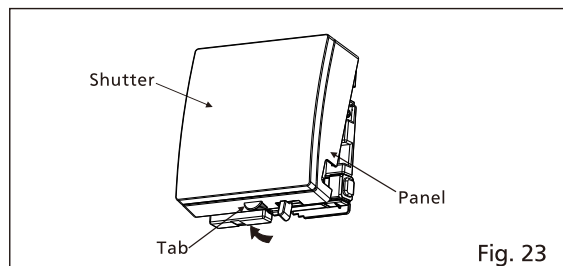

Fig. 23
1. Close shutter and detach the panel by pushing up the tab. (Fig.23)